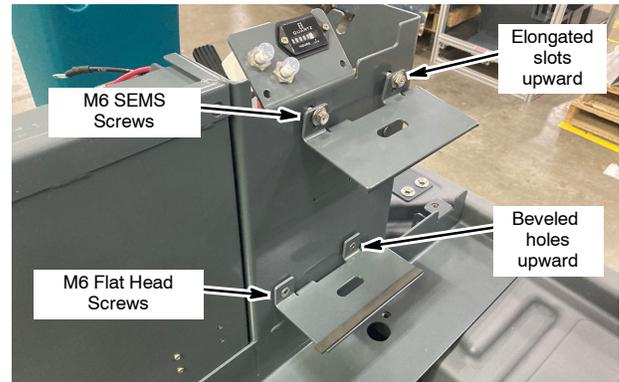

Fig. 3
5. Attach the two charger brackets to machine using supplied hardware (Figure 3). Do not tighten down the top bracket at this time. See Figure 13 if machine is not equipped with mounting holes.